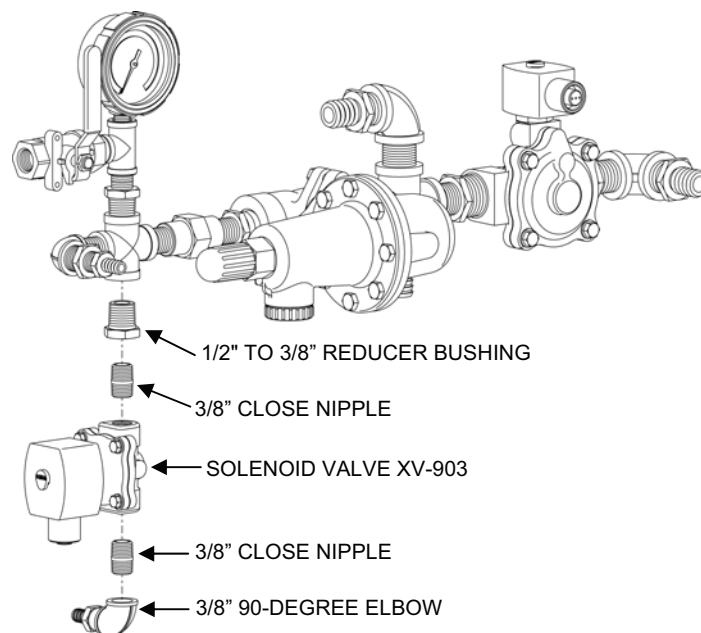

Figure 6. Solenoid Valve XV-903.
3. Remove Solenoid Valve XV-903 from the Air System Section 3 assembly as follows (see Figure 6):
- c. Thread the close nipple on the input side of the valve into the reducer bushing but do not over-tighten. Refer to Figure 6 for correct positioning of the valve.
- d. Thread the 3/8" elbow to the close nipple on the other end of the solenoid valve but do not over-tighten. Refer to Figure 6 for correct positioning of the elbow.